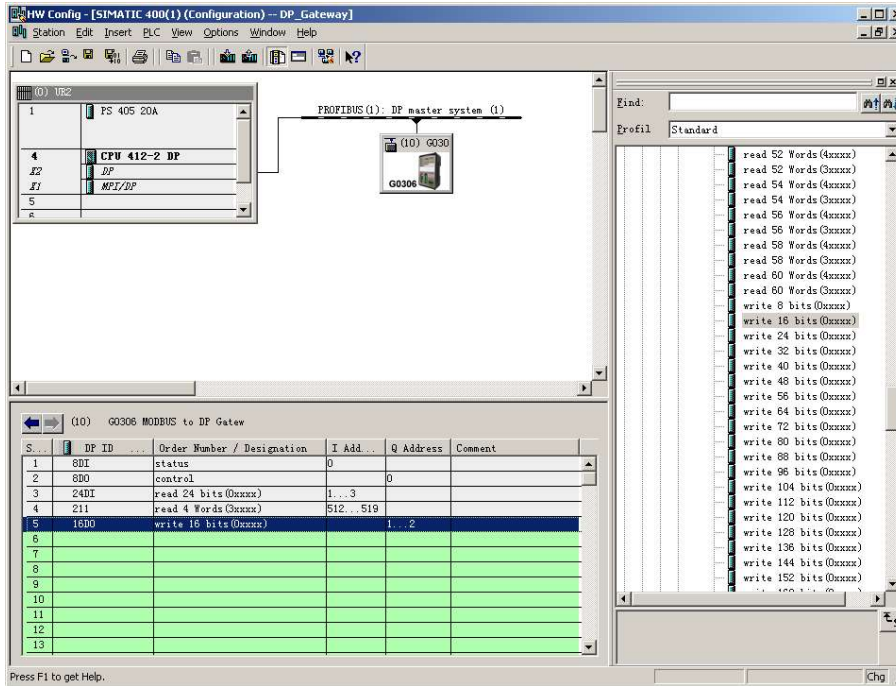

Figure 22 Add "write 16 bits(0xxxx)" module
**a) Add the "write 16 bits(0xxxx)" module, as shown in Figure 22:**